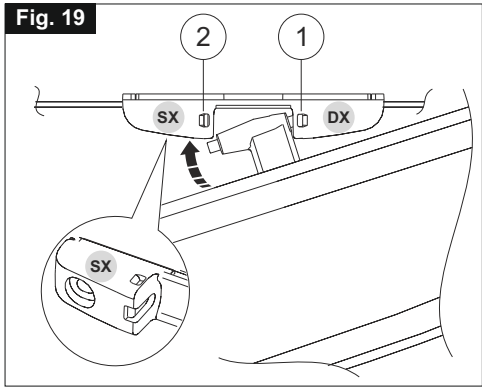

Fig. 20
- 9) **Fig. 20-** Using the two supplied screws (**Ref. 1**) tighten the actuator to the window frame connection bracket in the most suitable position according to the value of the overlapped part "D" (**see Fig. 6a**).